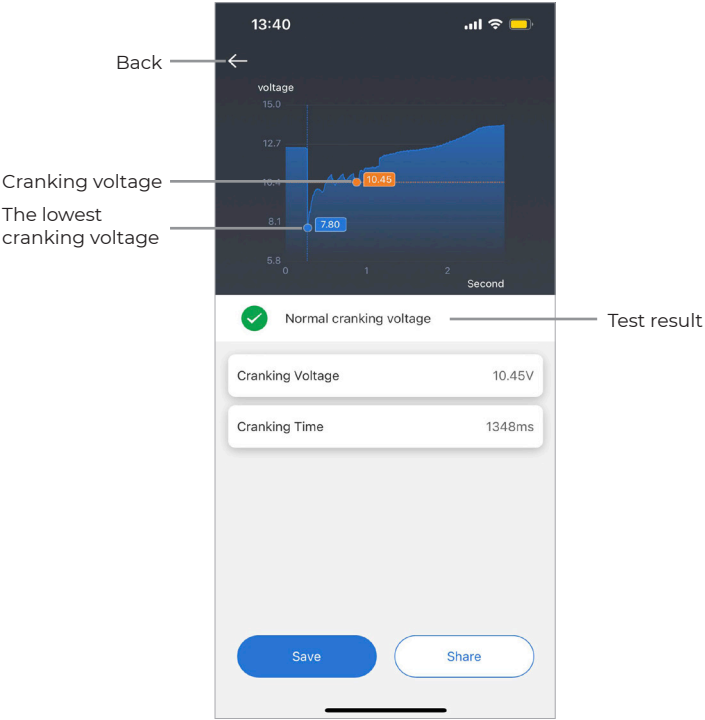

Figure 5.4.3
3) The test result will show as below (See Figure 5.4.3).